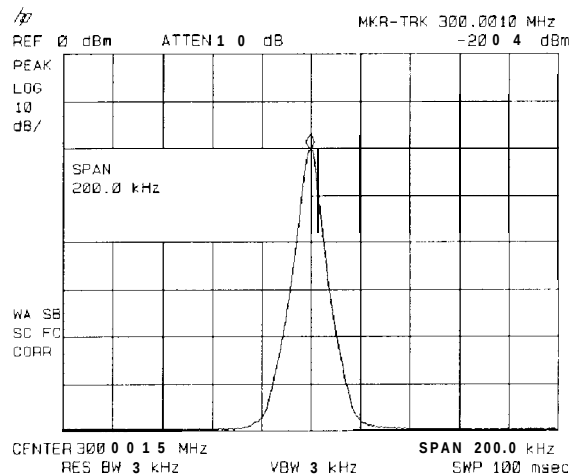

Figure 3-7. After Zooming In on the Signal
2. Press **[MKR FCTN]**, MK TRACK ON OFF (ON) and the signal will move to the center of the screen, if it is not already positioned there (note that the marker must be on the signal). Because the marker track function automatically maintains the signal at the center of the screen, you can reduce the span quickly for a closer look. If the signal drifts off of the screen as you decrease the span, use a wider frequency span.
3. Press **[SPAN]**, 200 **[kHz]**. The span decreases in steps as automatic zoom is completed. See Figure 3-7. You can also use the knob or step keys to decrease the span or use the PEAK ZOOM function under **[SPAN]**.